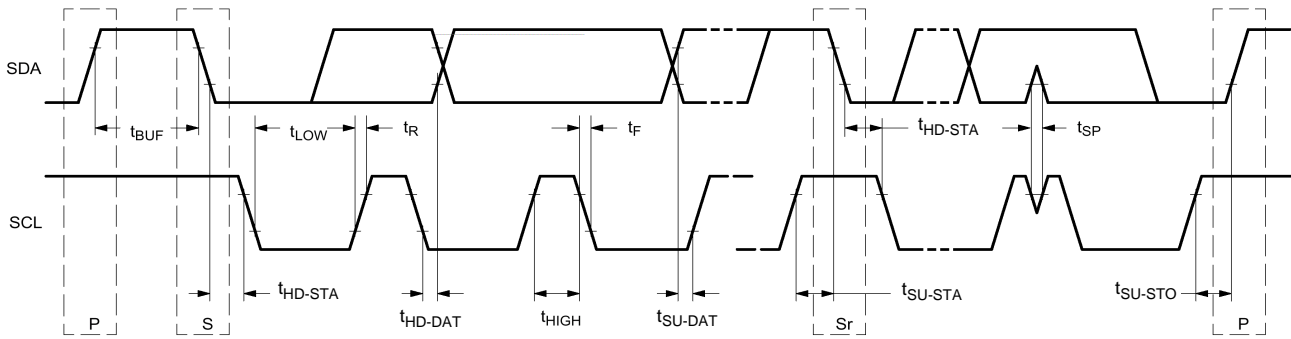

Figure 4. Definition of Time on the I2C Bus
- 19. see Figure 4 for more details